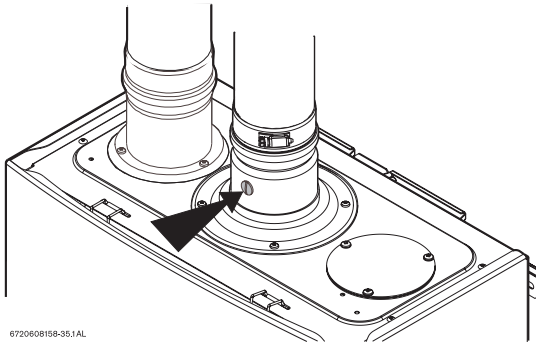

Fig. 53 Measuring port
- ▶ Remove brass flat head screw on the exhaust collar as seen in Fig. 53.